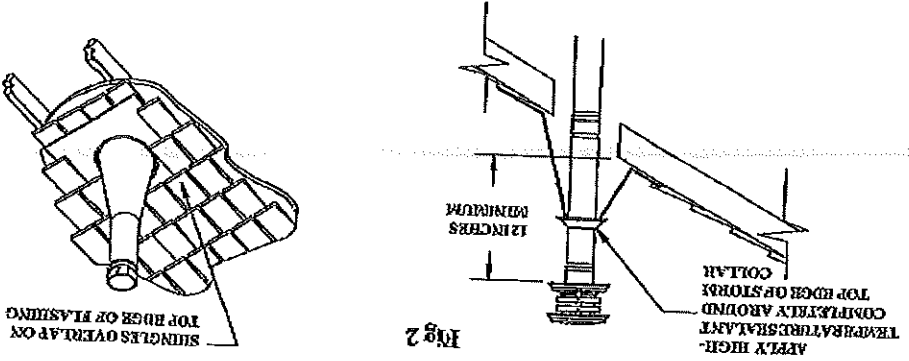

Fig 2
11. Slip the Flashing over the pipe section(s) protruding through the roof. Secure the base to the roof with roofing nails as shown in Figure 24. Insure that the roofing material overlaps the top edge of the Flashing (Refer to Figure 2).
**H.** To finish, apply high-temperature waterproof sealant where the Storm Collar will meet the vent and flashing; slide Storm Collar down until it sets on the flashing, put the Cap on and twist to lock (Figure 2).